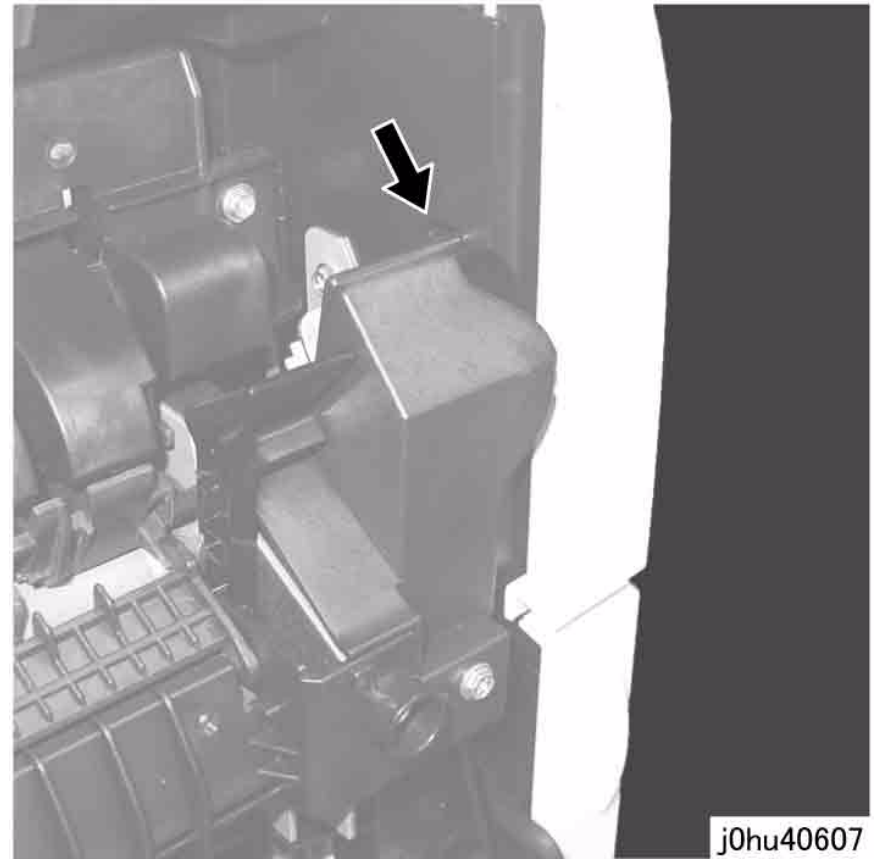

Figure 5 Installing Connector Cover
2. When installing the Connector Cover, insert the stud of the Connector Cover into the hole in the frame (Figure 5).